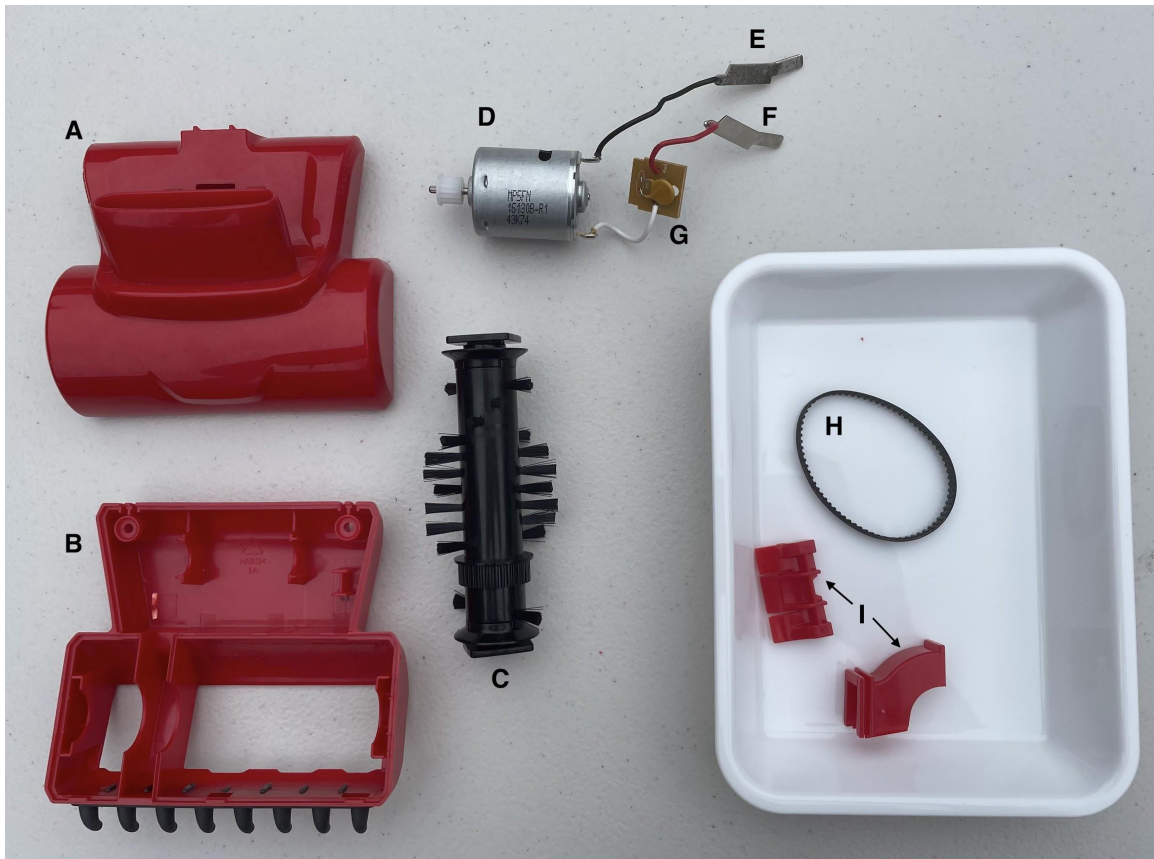

Figure 8: The accessory tool (A-I) contains powered Brushroll (C) to collect dirt.
The brush (Fig 8, C), which fits into the shell (Fig 8, A and B), has a spiral bristle pattern to funnel dirt to the middle of the front attachment. We thought that this design might reduce the cost of the brush, by reducing the number of bristles. It might also reduce the friction between the brush and the ground, by reducing the contact of brushes to the ground, to meet the power constraints of the motor (Fig 8, D). The brush is shaped in a cylinder, which has a notched section on one end for the gear belt (Fig 8,
H). This allows the motor to spin the brush. The motor is an electric D.C. motor. The wires connect to the motor (Fig 8, E and F). While one wire goes straight to the metal strip to go to the power supply coming from the batteries, the other one first connects to a resistor (Fig 8, G), which reduces the voltage of electricity to the motor. The two support pieces (Fig 8, I) attach to the upper shell (Fig 8, A), and keep the brush component in line with the motor.